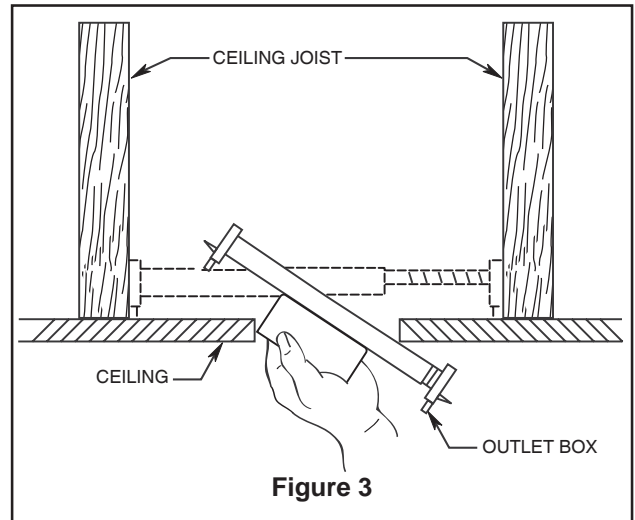

Figure 3
Your new ceiling fan will require a grounded electrical supply line of 120 volts AC, 60 HZ, 15 Amp Circuit. Electrical code requires use of a fan-rated outlet box to support the extra weight and motion associated with a ceiling fan. A fan-rated box will be labeled as such and typically supports up to a 70lb ceiling fan. Fan-Rated Outlet Boxes vary in ratings and design. Ensure the ratings of your ceiling fan outlet box meet the requirements for the ceiling fan being installed. Figure 1, Figure 2 and Figure 3 depicts different structural configurations that may be used for mounting the outlet box.
### Deep box with brace (Figure 3)
5. Be sure to line up the holes while pushing the downrod with rubber sleeve into the downrod support prior to installing clevis pin and hairpin clip. (Figure 2 & Figure 3)
- 3. Assemble and secure the assembled fan with hex-head bolt, two lockwashers, nylon locknut and clevis pin.** (Figure 3)